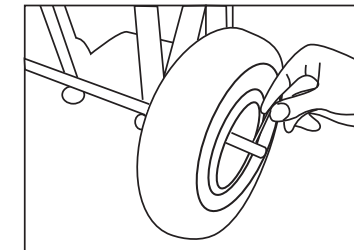
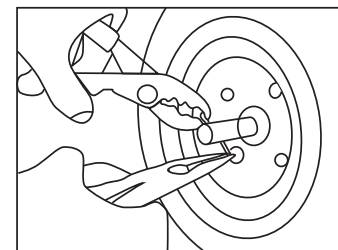

Fig 4
Fig 5
3. Use a cotter pin (butterfly pin) to hold the wheel in place (Fig 4). Bend the cotter pin to lock the assembly (Fig 5) Note: You may need to use pliers to hold the pin in place while bending the pin with needle nose (Fig 4a).